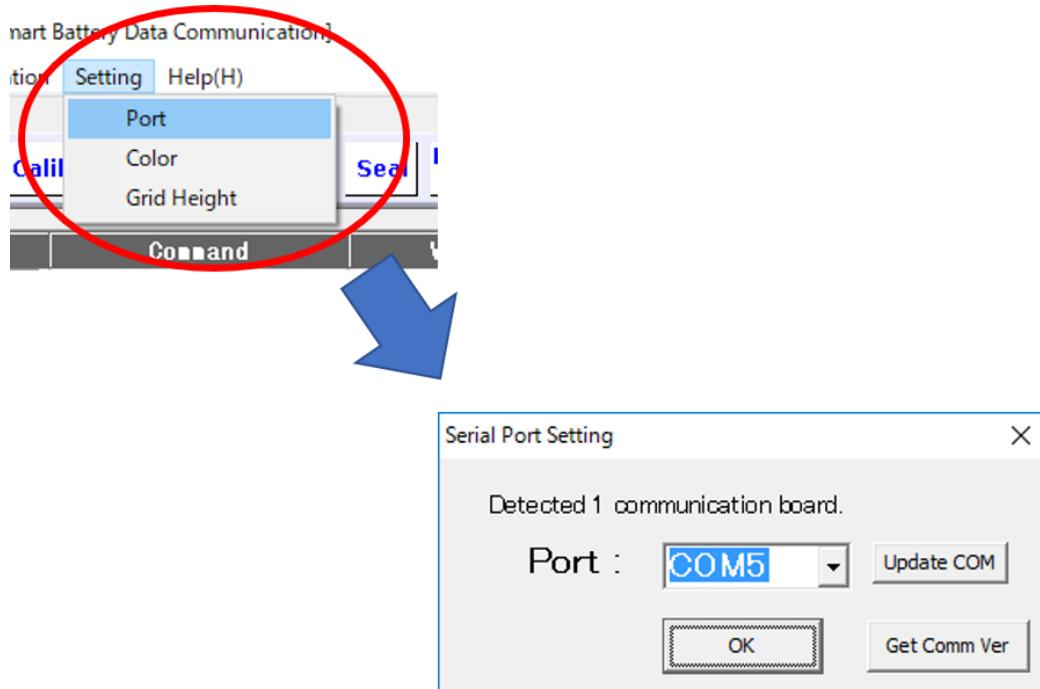

Figure 1 Port Setting
2. Select the desire Port address (example in Figure 1 shows COM5)